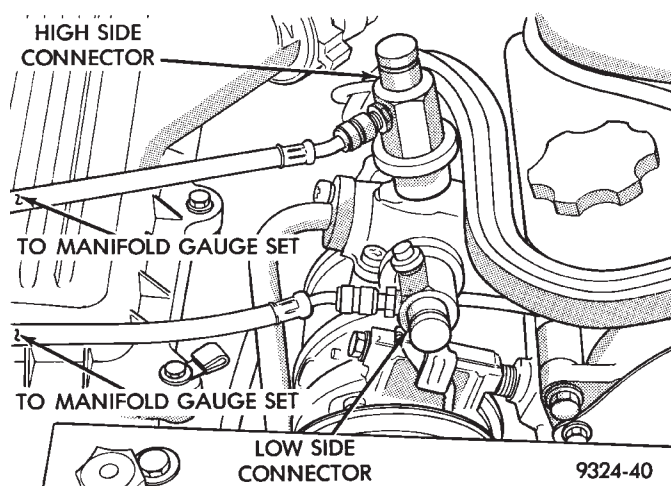

**Fig. 12 Gauge Set or Refrigerant Recovery Machine Hookup**
(1) Connect a suitable charging station, refrigerant recovery machine, and a manifold gauge set with vacuum pump (Fig. 12).
(2) Open suction and discharge valves and start vacuum pump. The vacuum pump should run a minimum of 45 minutes prior to charge, to eliminate all moisture in system. When suction gauge reads -88 kPa (-26 in. Hg) vacuum or greater for 45 minutes, close all valves and turn off vacuum pump. If the system fails to reach specified vacuum, the refrigerant system likely has a leak that must be corrected. If the refrigerant system maintains specified vacuum for at least 30 minutes, start the vacuum pump, open the suction and discharge valves. Then allow the system to evacuate an additional 10 minutes.
(3) Close all valves. Turn off and disconnect the vacuum pump.
(4) The refrigerant system is prepared to be charged with refrigerant.